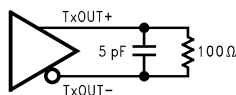

**Figure 2. "Worst Case" Test Pattern**
- Figure 2 and Figure 3 show a falling edge data strobe (TxCLK IN/RxCLK OUT).